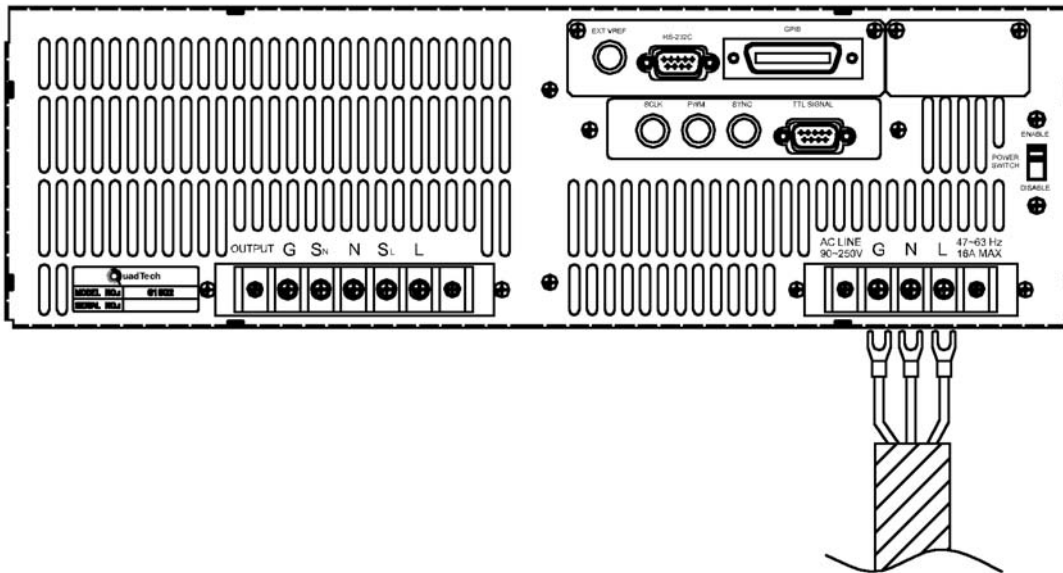

Figure 2-1 Input Connection 31000 Series excluding the 31040
See figure 2-1 and do the following one by one:
5. Screw the power cord to the input terminal blocks of the AC source (see Figure 2-1).